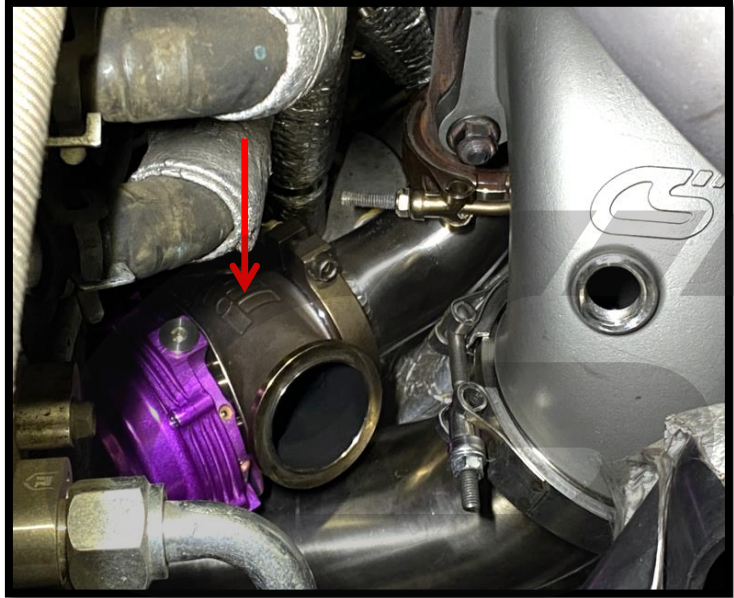

Figure 11b
- c) Install your EWG onto the end of the EWG elbow in the approximate orientation shown in **Figure 11b**. Secure with the large clamp that came with your EWG but leave the clamp loose enough to let the elbow rotate. **Do not forget the fire ring/valve seat in your EWG!**